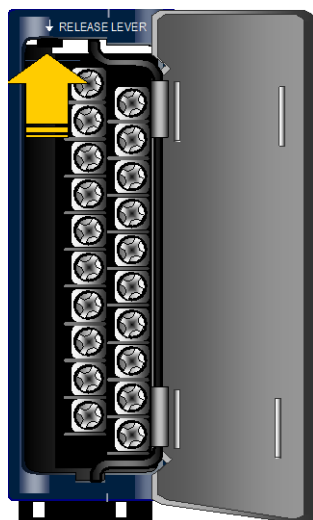

Figure 31: Release Lever Usage prior to Removal
2. Push up the release lever (Figure 31) to unlock the terminal block.